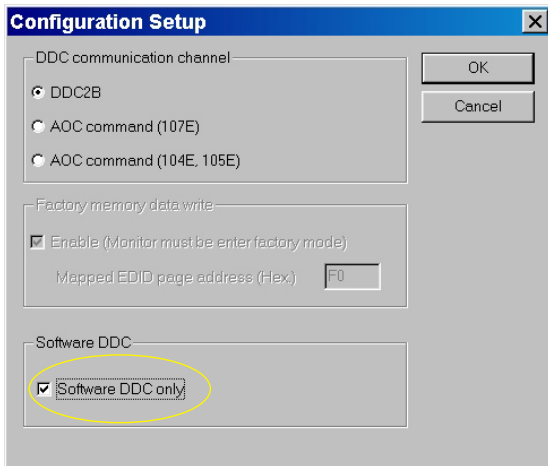

Fig. 16
- Click  icon from the tool bar to bring up the Configuration Setup windows again. Then, select "Software DDC only" as shown in Fig. 16. Click "OK".
4. Access "Factory Mode" and enable "Software DDC only" as shown in Fig. 17 & Fig. 16.